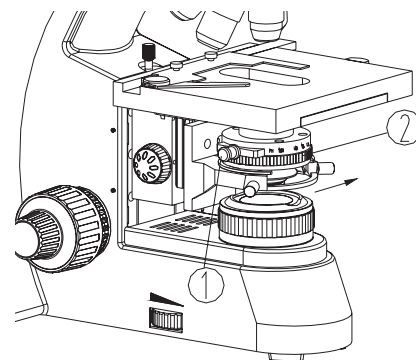

Figure 10.
4. Darkfield Flashboard (MS1203). Enables darkfield viewing of specimens without using a special condenser. With the flashboard in the up position (words on top), insert it from left to right into the condenser flashboard socket as shown in Figure 10. Open the aperture diaphragm to the maximum position.